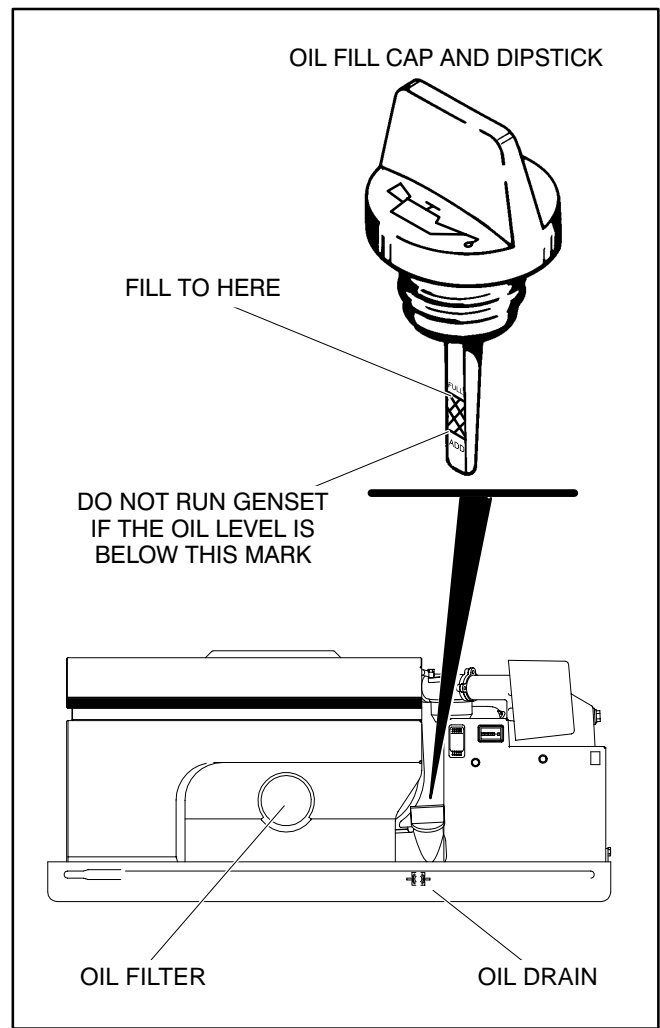

FIGURE 4. OIL LEVEL CHECK
1. Remove the oil fill cap/dipstick (Figure 4), wipe it clean, screw the cap back on and then remove it again to check the oil level on the dipstick.
2. Remove the oil fill cap (Figure 4), open the oil drain valve and allow all of the oil to drain from the engine.